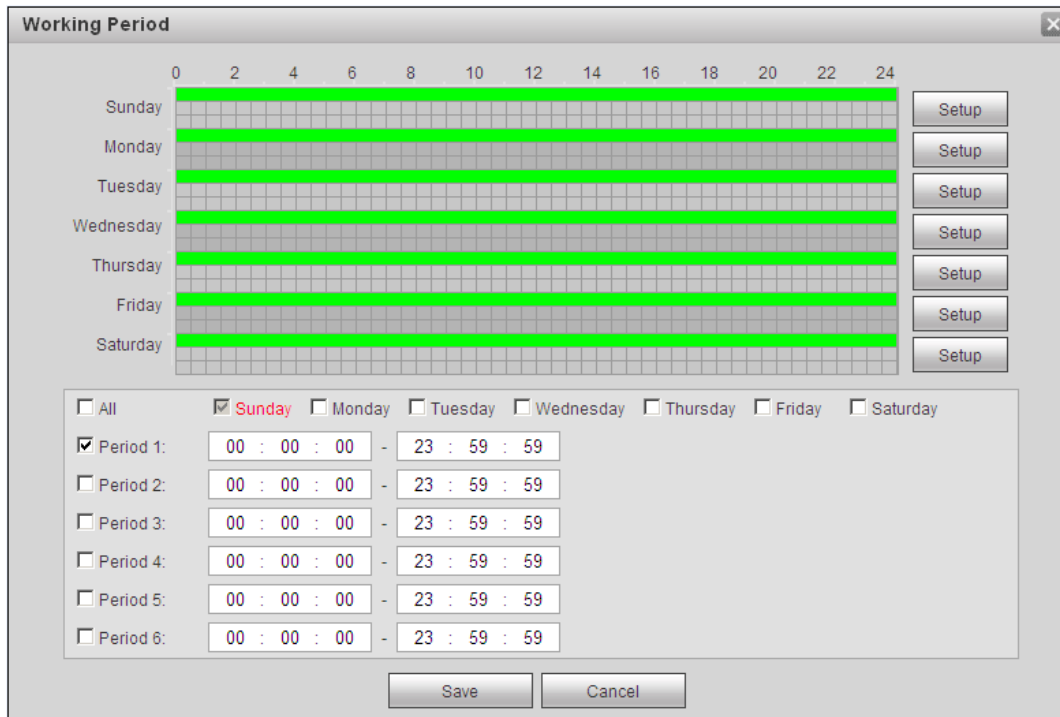

Figure 5-78
1. Click “Setup” and the system will display the interface of “Working Period”, which is shown in Figure 5-78.